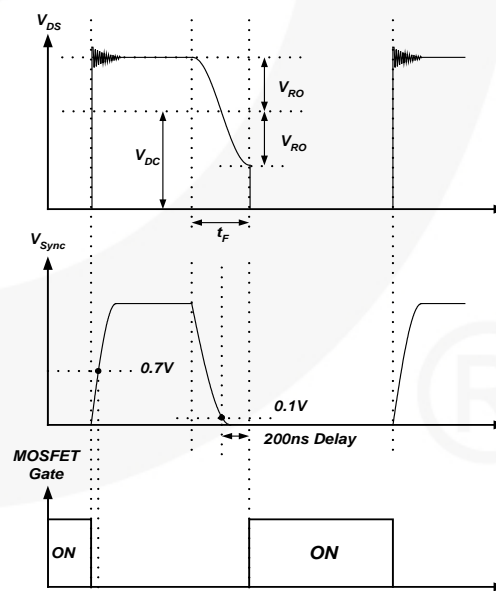

Figure 15. Valley Switching Waveforms
3. Synchronization: The FSQ510 employs a valley-switching technique to minimize the switching noise and loss. The basic waveforms of the valley switching converter are shown in Figure 15. To minimize the MOSFET switching loss, the MOSFET should be turned on when the drain voltage reaches its minimum value, as shown in Figure 15. The minimum drain voltage is indirectly detected by monitoring the V_{CC} winding voltage, as shown in Figure 15.